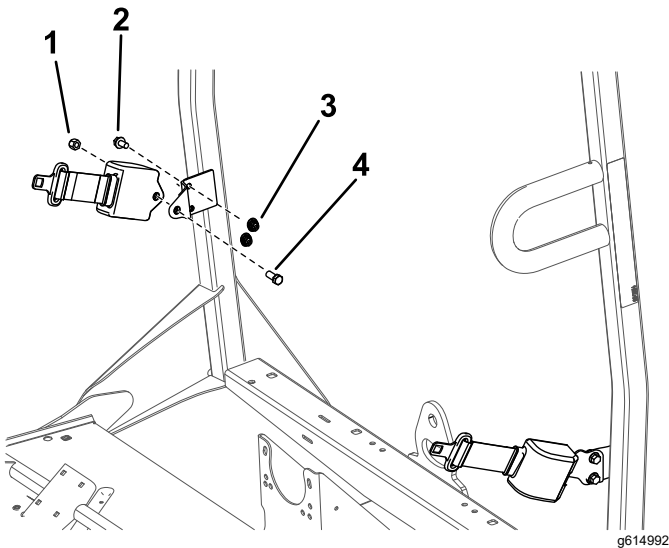

Figure 7
1. Mount a seat belt anchor bracket to the outside of each ROPS tab with 2 bolts (3/8 inch) and 2 nuts (3/8 inch) (refer to Figure 7).
2. Mount the retractable end of each seat belt assembly to each seat belt anchor bracket with a bolt (7/16 inch) and nut (7/16 inch) (Figure 7).